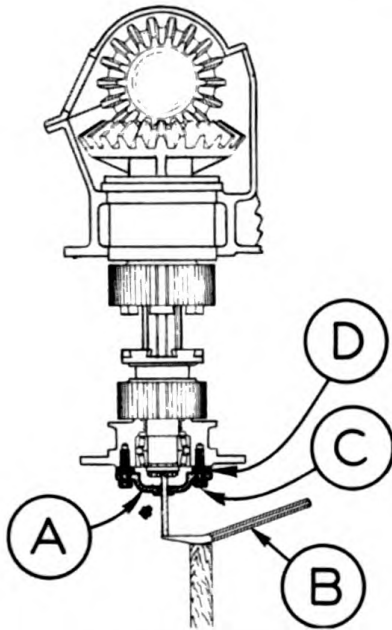

FIGURE 66
SWING AND TRACTION BEVEL GEAR SHAFT ADJUSTMENT (See Figure 66)
The swing and traction bevel gear shaft should be inspected at regular intervals to determine if any end play has developed. To check the shaft, remove the grease gun connection from the bearing retainer cap (A) and insert a  $\frac{3}{8}$ " drift pin about 4" long into the grease gun connection hole, and under the pin set a pinch bar (B) supported by a timber as illustrated in Figure 66. Bear down and raise pinch bar and if shaft moves up and down from  $\frac{1}{16}$ " to  $\frac{1}{8}$ " or more, there is excessive end play which will require adjustment. To adjust, remove the six capscrews (C). This will allow the bearing retainer cap (A) to be removed. Be careful that the shims (D) do not drop down and become lost. Remove one shim (D). Replace the bearing retainer cap (A) and the capscrews (C). Be sure to tighten the capscrews evenly when screwing them back into place. Check shaft and if excessive end play remains, repeat the adjustment, removing only one shim at a time, until all but a very slight movement is eliminated.